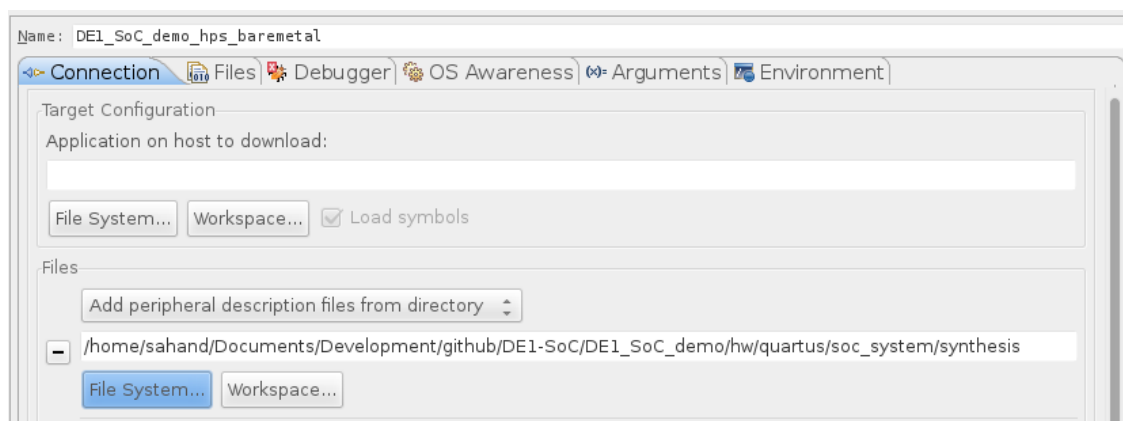

Figure 8-33. Debug Configuration "Files" Tab
- b. In 8.3.3.2, we configured our HPS to use some FPGA peripherals. We can instruct the debugger about this so it can show more detailed information when debugging. To do this, set the combobox to “Add peripheral description files from directory” and set it to the “DE1_SoC_demo/hw/quartus/soc_system/synthesis” directory, as shown in Figure 8-33. This directory contains a file called “soc_system_hps_0_hps.svd” which has information on all of the HPS' peripherals which are in the FPGA fabric.